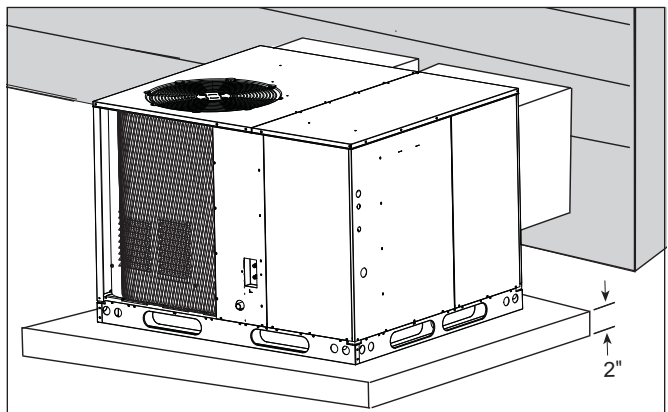

Figure 5. Ground Level Installation.
**Ground Level** — When installing the unit at ground level (See **Figure 5**), provide a concrete mounting pad separate from the building foundation. The pad must be level to insure proper condensate disposal and strong enough to support the unit's weight (Refer to **Figure 1**). Make sure the slab is a minimum of 2" above the grade and in an area that drains well.